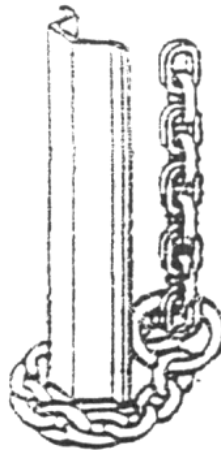

Figure 3-2.
2. Wrap the chain around the post and “thread” the end through the cinch ring of the chain. Bring the chain up through the eye of the BucJac. Pull the chain to remove as much slack as possible. See Figure 3-2. Do NOT use any substitute for the lifting chain provided.